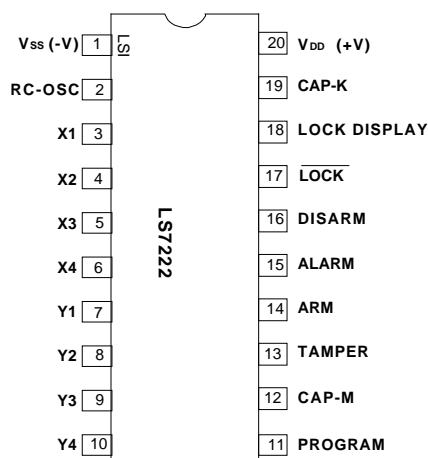

FIGURE 1
- LS7222 (DIP), LS7222-S (SOIC)- See Figure 1